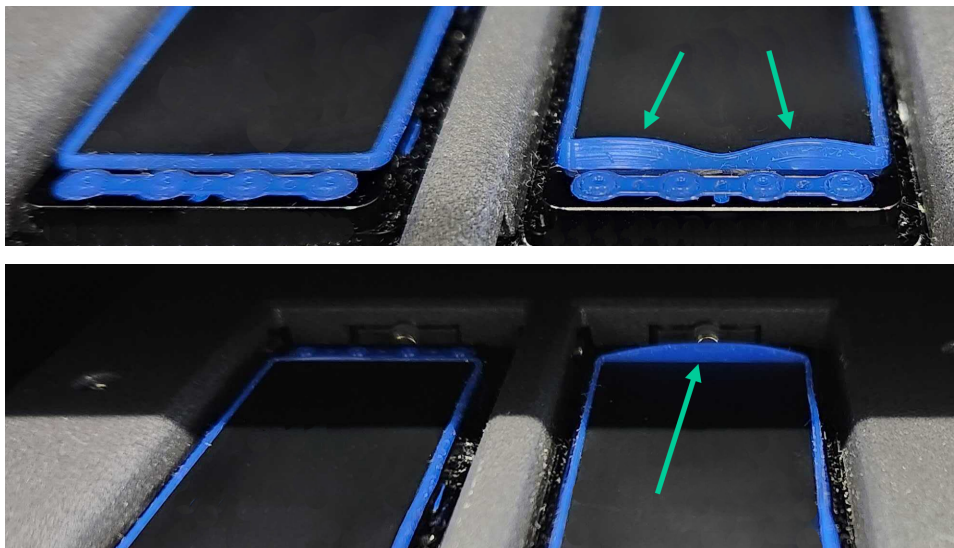

Figure 33 Raised gaskets at the front end and far end of a flow cell position, indicated by arrows.
2. Ensure the gaskets of the flow cell position is completely level by running a gloved finger all the way around the blue perimeter gasket and over the two port gaskets at the front and rear. If a gasket is raised in an area, carefully press the gasket down in that area to make sure the gasket is entirely level (see Figure 33).